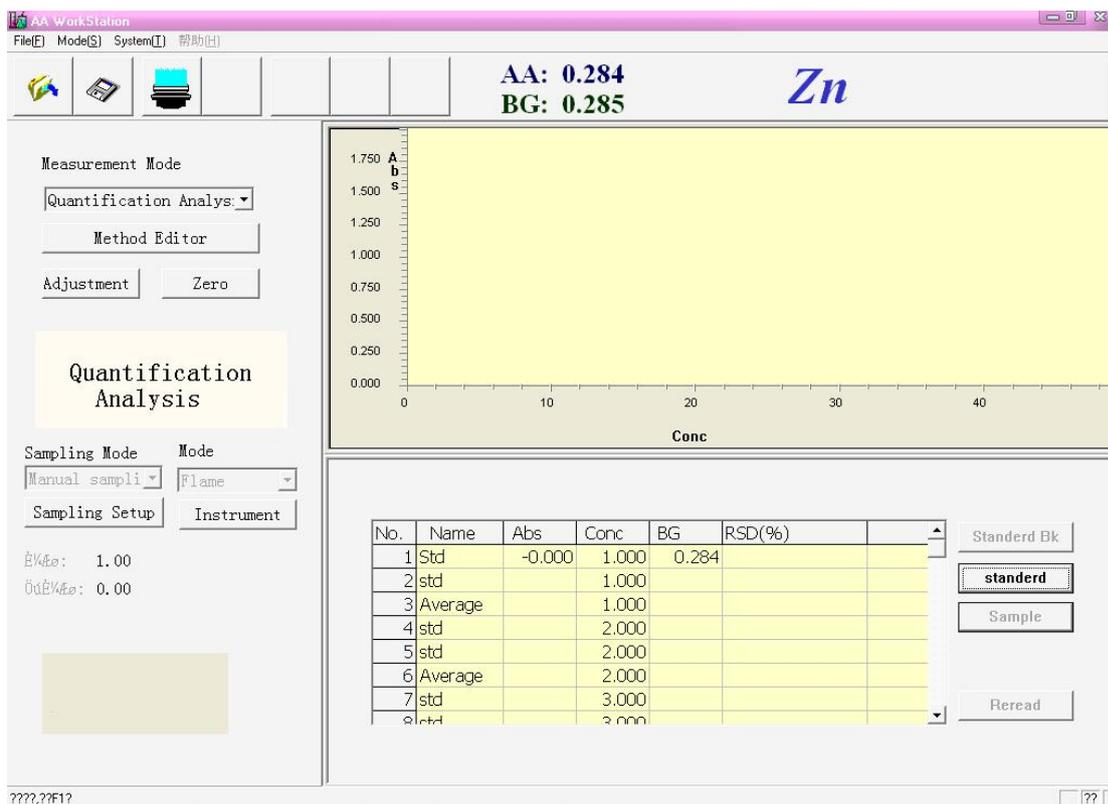

Figure 6-9
10. Press **【Zero】** ,spurt and absorb the standard sample 1,press **【Standard】** ,display the figure 6-9